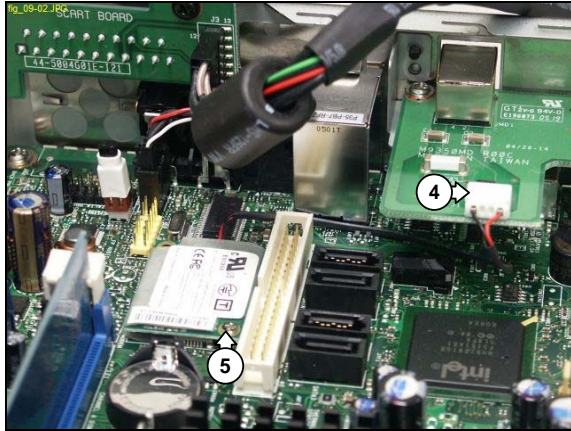

Figure 12.9-2
7. Disconnect the MD cable (4) from the RJ11 connector board. See Figure 12.9-2.
8. Remove the mounting screw (5) from the modem card. See Figure 12.9-2.